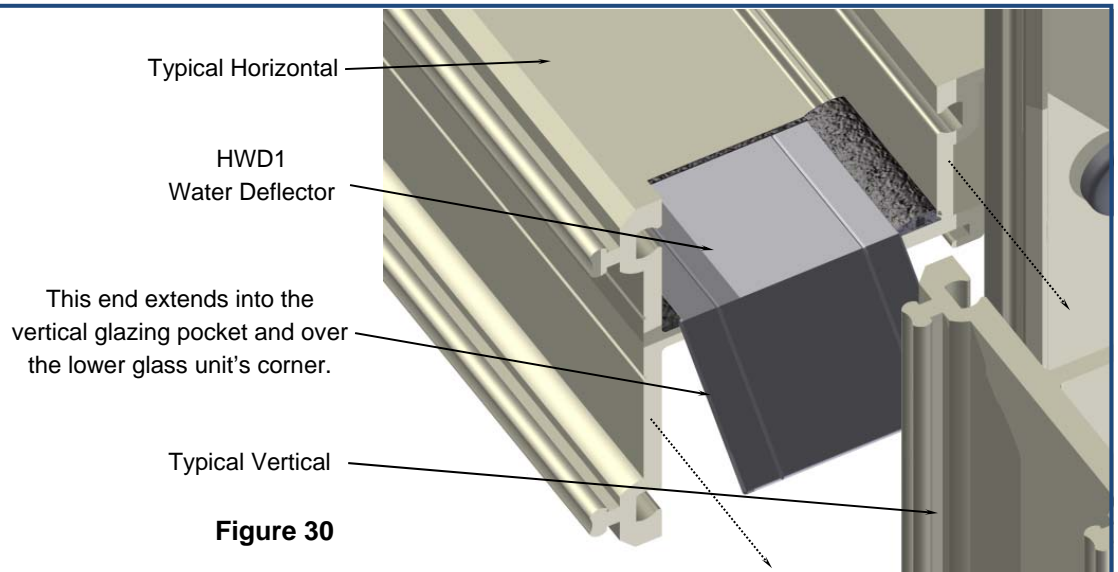

Figure 30
- Use a silicone type sealant to adhere the HWD1 onto the intermediate horizontal. Make certain that the water deflector sits flush with the top of the intermediate horizontals glazing pocket. See figure 30.
- Add a generous amount of sealant to cover the gap from the water deflector to interior glazing leg. See figure 30.